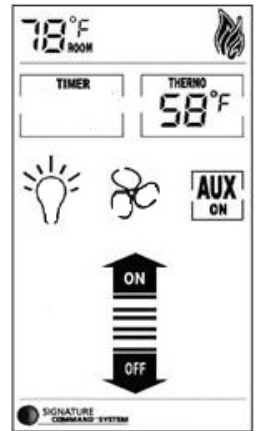

Figure 65
**Thermostat Mode (Figure 65)**